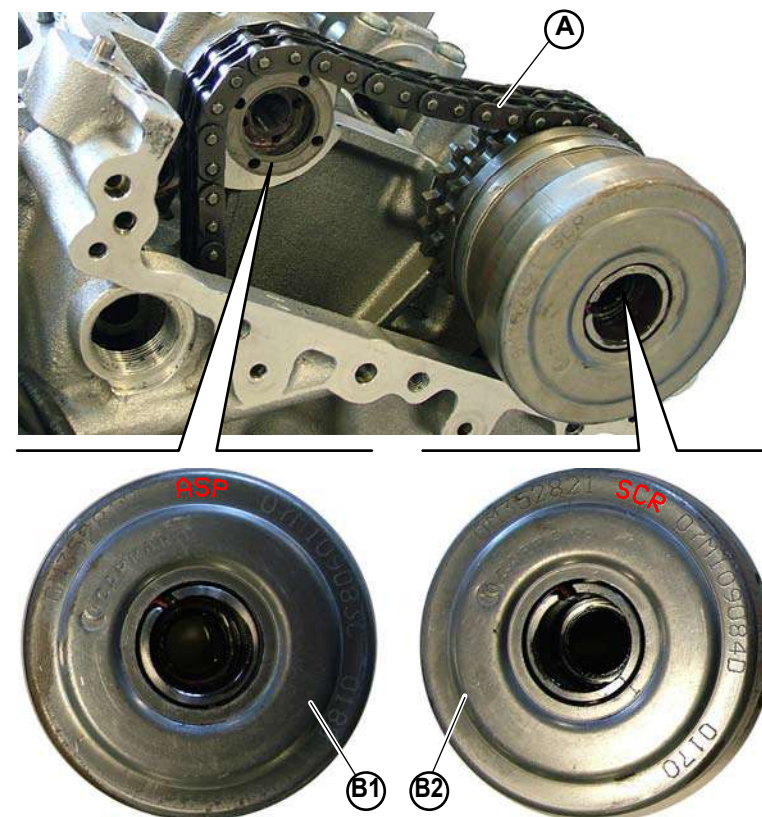

Fig.3
1. Insert the two variable valve timing mechanisms and appropriately secure the upper timing chain (**A-Fig.3**).
Be careful to correctly assemble the intake (**B1-Fig.3**) and exhaust (**B2-Fig.3**) variable valve timing mechanisms: the position of the variable valve timing mechanism is engraved on the mechanisms themselves.